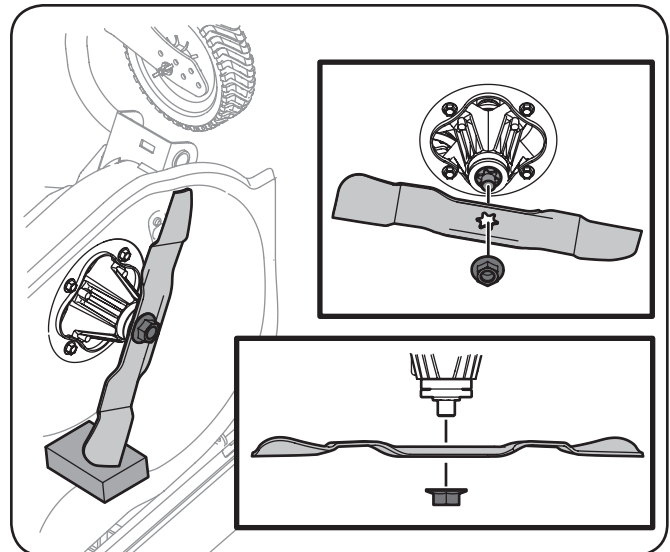

Figure 6-2
3. Place a block of wood between the center deck housing baffle and the cutting blade to prevent the blade from turning when loosening the blade's hex flange nut. See the left-hand side of Figure 6-2.
4. Remove the hex flange nut that secures the blade to the spindle assembly. See Figure 6-2.